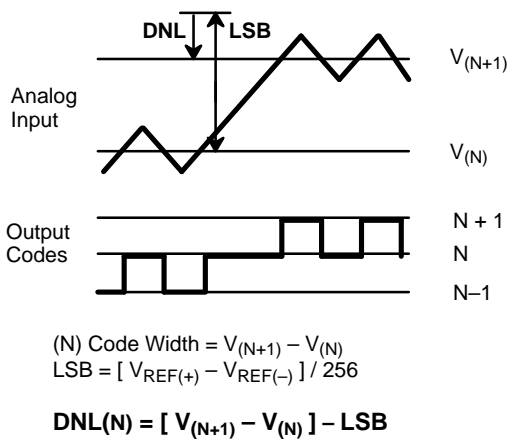
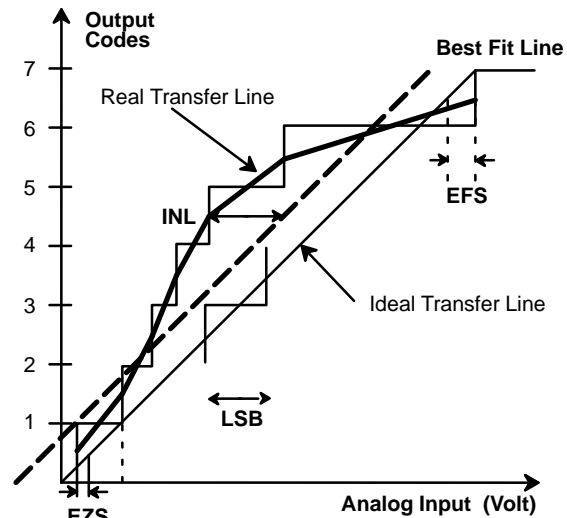

Figure 3. DNL Measurement
Figure 4. INL Error Calculation
- ¹ Tester measures code transitions by dithering the voltage of the analog input (V_{IN}). The difference between the measured and the ideal code width (V_{REF}/256) is the DNL error (*Figure 3*). The INL error is the maximum distance (in LSBs) from the best fit line to any transition voltage (*Figure 4*). Accuracy is a function of the sampling rate (F_S).
Figure 4. gives a visual definition of the INL error. The chart shows a 3 bit converter transfer curve with greatly exaggerated DNL errors to show the deviation of the real transfer curve from the ideal one.